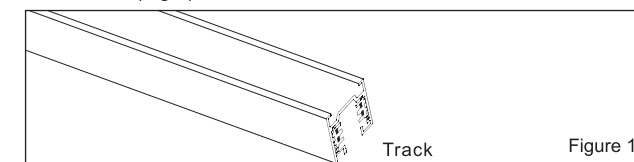

Figure 1
1. This product is compatible with Mayalit brand track (Fig.1) or other compatible rails from third-party manufacturers.track parameters: input voltage:AC 220-240V; Max current: 16A; Max load: 3680W.